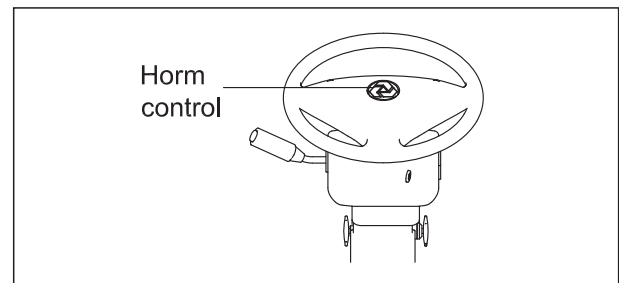

Fig. 4-17
6. Press horn control to sound horn. (see Fig. 4-17).